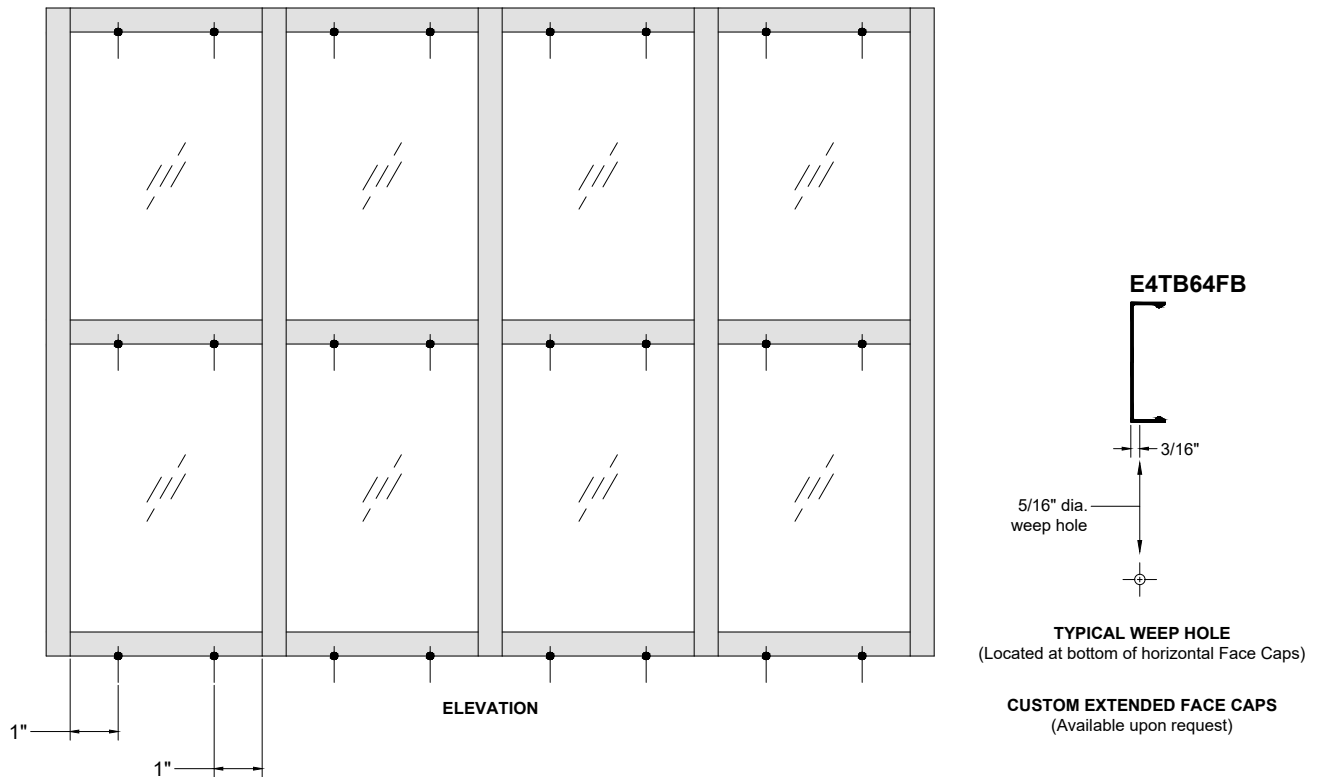

Fig.41.1
- I. Install the vertical face covers using a wood block to protect the face cover. Also see Fig.41.1.